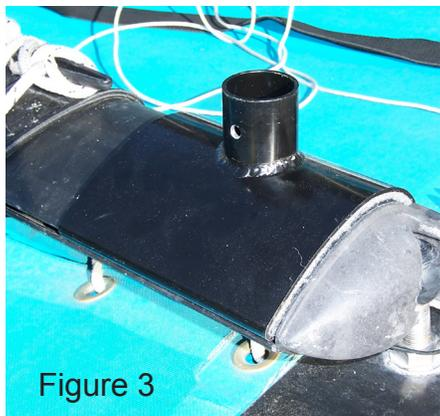

Figure 3
3) Place the Mast Stepper III adapter on top of the mast at the base as shown in (Figure 3). The fit of the adapter will hold the mast in rotation while stepping. The mast may be rotated to left or right. Fasten the shock cord loop around the adapter post, around the mast and back to the post. This will hold the adapter tightly to the mast.